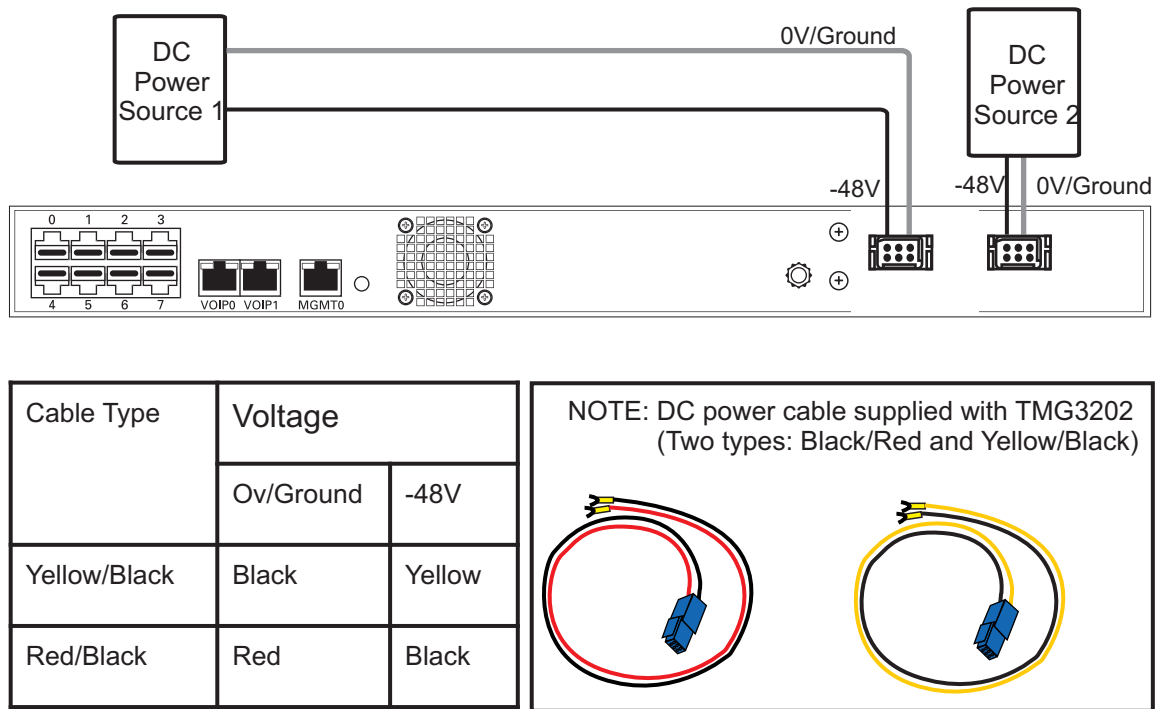

Figure 2.8 TMG800 Redundant DC Supply Wiring Diagram
1. Connect one DC cable supplied with the TMG800, as shown in figure 2.8 on page 18, to the DC outlet at the rear of the TMG800.
Note Two types of cable with different coloring are available. Refer to figure 2.8 on page 18 for the appropriate wiring information.
2. Connect one lead of the DC power cable to the positive terminal of the DC power source, as shown in figure 2.8 on page 18.